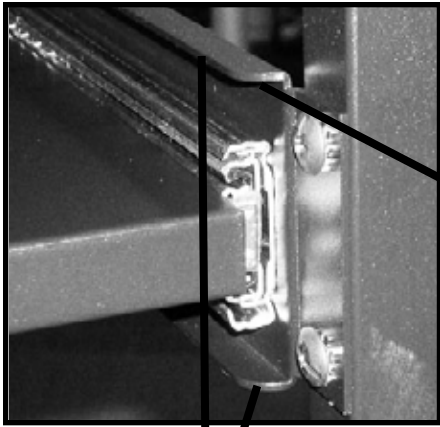

**FIGURE 4**
Attach pole to top shelf. Align pole over holes in top shelf as shown in **FIGURE 3**. Secure from **UNDERNEATH** with screws (CC), washer (DD), screw (EE) and washers (MM) as shown in **FIGURE 4**.